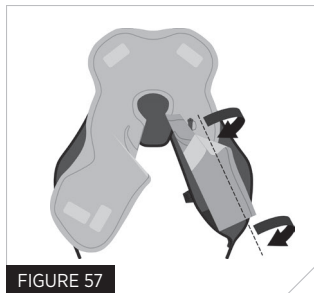

FIGURE 57
4. Fold and tuck outside edge under, along fold line 4 (Fig 57).